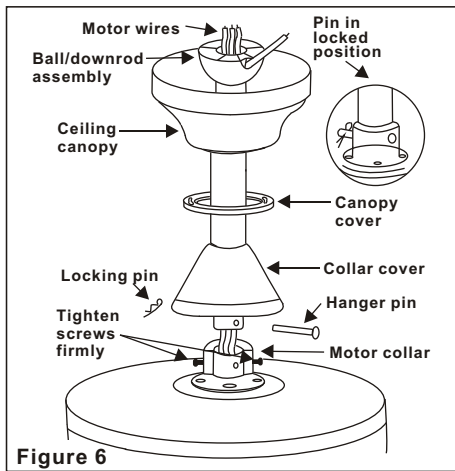

Figure 6
**Step 6.** Route wires exiting from the top of the fan motor through the collar cover, canopy cover, canopy and then through the ball / downrod. (Fig. 6)
**Step 7.** Align the holes at the bottom of the downrod with the holes in the collar on top of the motor housing (Fig.6). Carefully insert the hanger pin through the holes in the collar and downrod. Be careful not to jam the pin against the wiring inside the downrod. Insert the locking pin through the hole near the end of the hanger pin until it snaps into its locked position, as noted in the circle inset of Fig. 6.
**Step 8.** Tighten two set screws on top of the fan motor firmly (Figure 6)